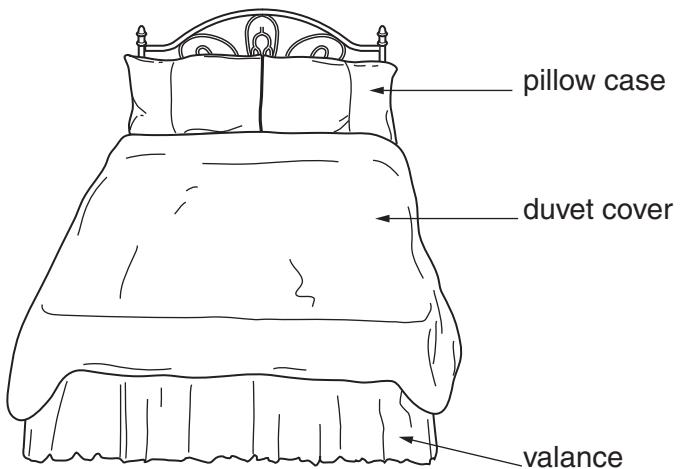

Fig. 3
- 5 Fig. 3 shows a bedding set.